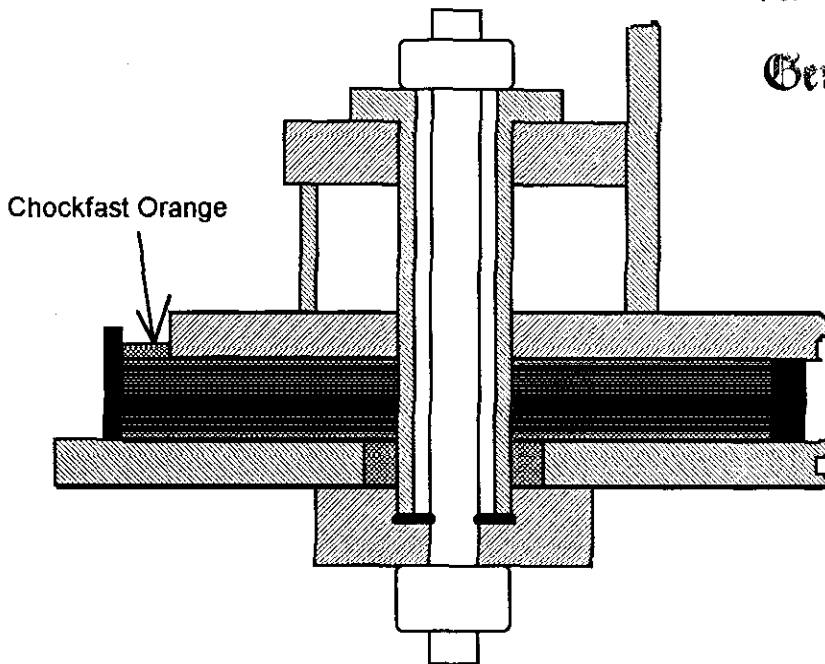

Figure 2
6. Apply Chockfast according to standard procedures. Pour the Chockfast slowly at first to ensure epoxy fills the clearance space around the bottom of the thrust sleeves. See Figure 2.